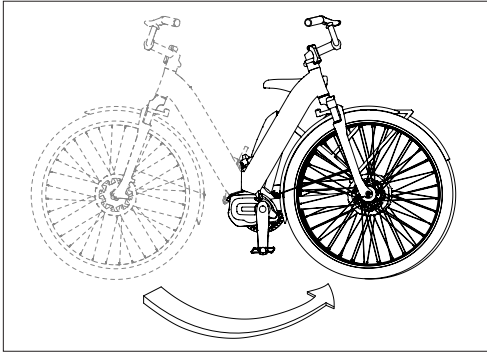

Fig. 32: Fold the bike frame in half.
5. While holding the quick release down, fold the bike in half (Fig. 32, page 37).